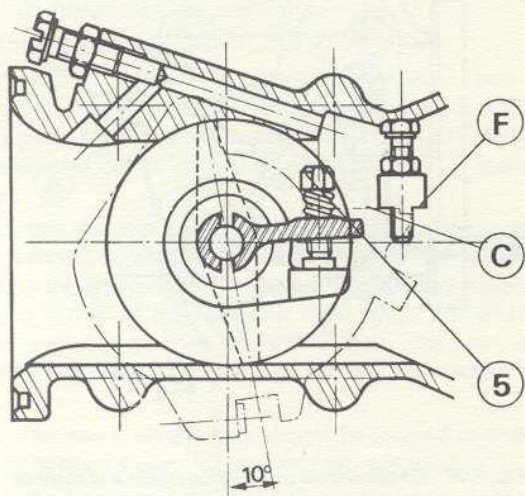

Fig. 2.10 Throttle valve minimum opening
Turn the screw (5) in Fig.2.10 to bring the mark "C" in line with the mark "F" on the air distributor boss.